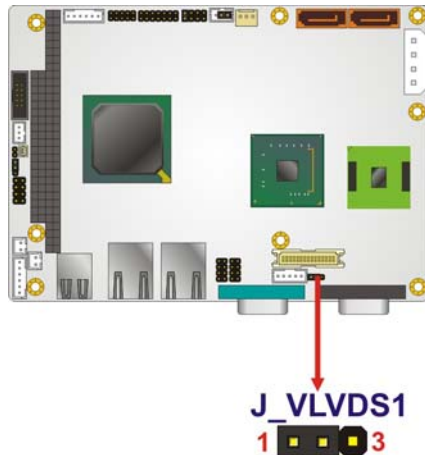

Figure 4-6: LVDS Voltage Selection Jumper Pinout Locations
- Jumper Location:** See Figure 4-6